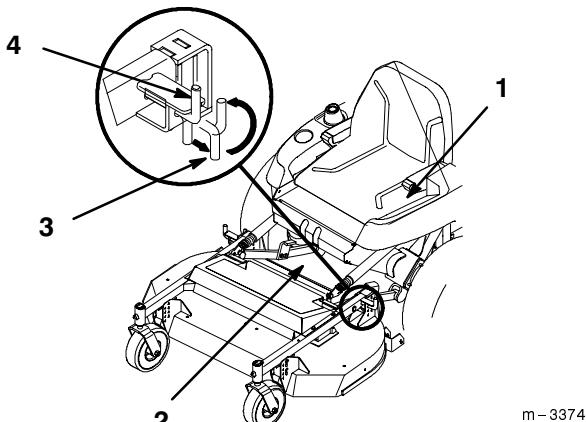
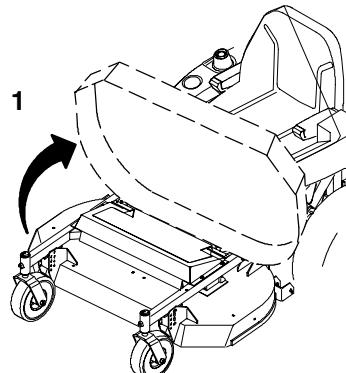

Figure 19
Figure 20
3. Lift on side of mower to release weight on latch pin and pull out on latch pin to release (Fig. 19). Lower rear of mower onto roller. Repeat on the other side.
4. Standing in front of the mower, lift up and push rearward on front to raise mower (Fig. 20). Raise mower until it contacts stops and latch pins snap into locked position.
1. Pull out latch pins and rotate into notch to hold in the open position (Fig. 19). Standing in front of the mower, pull forward on front and lower mower (Fig. 20).
2. Rotate latch pins into released position and lift on side of mower until latch pin engages (Fig. 19). Repeat on the other side.